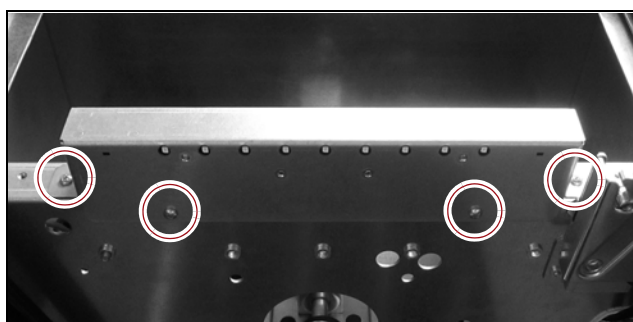

Figure 24 Remove the upper LED screws.
- If you are removing the upper LED assembly, the screws are located on the sides and underside of the assembly (see Figure 24).